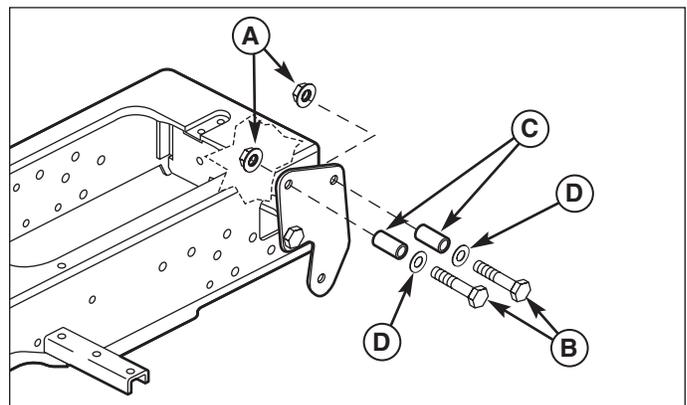

Figure 2. Install Rear Spacers
2. Install the rear spacers (C, Figure 2). Secure with two 1/2-13 x 2-1/2 capscREWS (E), washers (D), spacers (C), and 1/2-13 nylock nuts (A) per side.